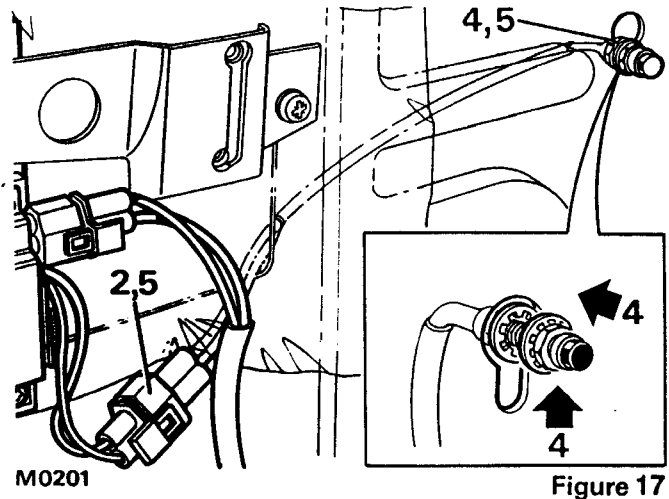

Figure 17
- 2 Disconnect warning light lead plug, see figure 17.